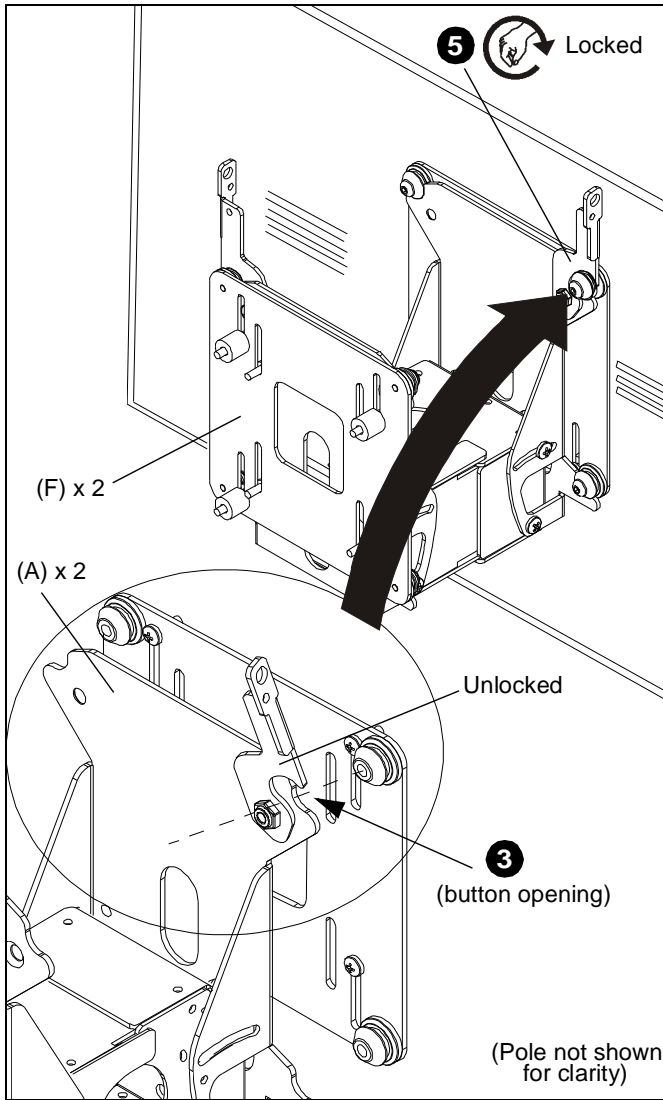

Figure 7
3. Lift and maneuver display so that mounting buttons on interface brackets (F) fit into button openings on FDP (A). (See Figure 7)
5. Engage latching flags, locking the flat panel displays attached to interface brackets (F) in place (See Figure 7).